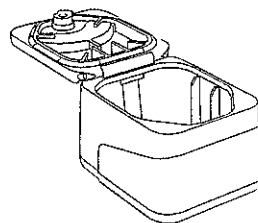

Figure 1. Open Lid
1. Open the lid (see figure 1).